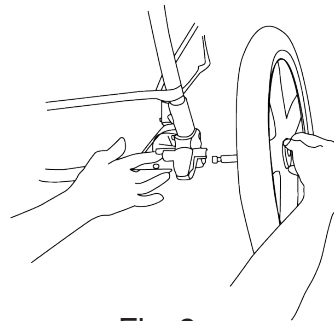

Fig. 2
6. To attach the rear wheels, lay stroller on its side. Align back wheel axle to the stroller's rear wheel axle housing (Fig. 2). Push the back wheel axle inward until you hear a "click" (Fig. 2A). Once in a fully locked position, check to make sure back wheel is in a fully locked position by pulling outward. Repeat steps for other side back wheel. NEVER use stroller if any wheels are not in a fully locked position. Please contact our customer service department immediately at 1-646-435-8726 for assistance.